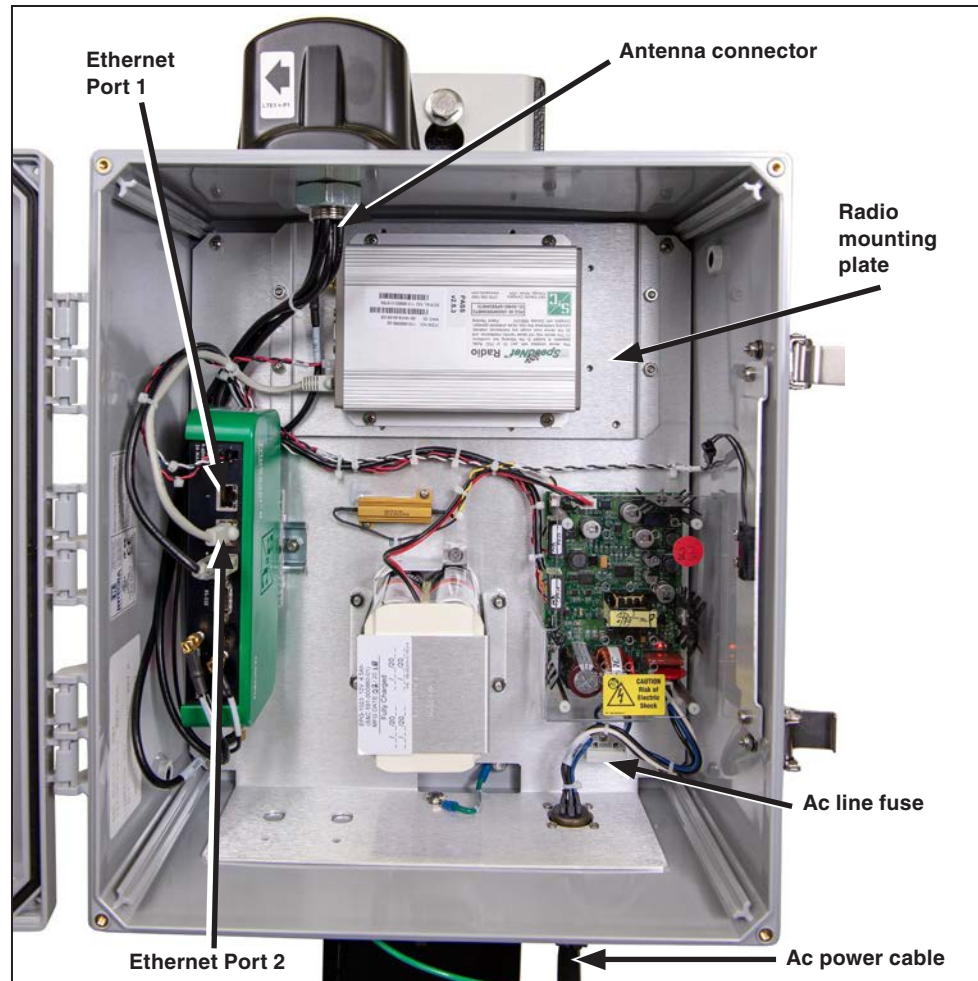

Figure 4. Installing a radio.
A radio providing field-area network capability for SCADA applications, if specified, is furnished factory-installed in the communications gateway. Alternately, the customer may install a user-furnished radio. See Figure 4.
- STEP 1.** Disconnect the ac power cable connected to the bottom of the gateway and then disconnect the ac-line fuse located at the lower right corner of the gateway box. See Figure 4 on page 12.
- STEP 2.** Remove the existing field-area network radio. See Figure 4 on page 12.
**STEP 1.** Disconnect the ac power cable connected to the bottom of the gateway and then disconnect the ac-line fuse located at the lower right corner of the gateway box. See Figure 4 on page 12.
**STEP 1.** Disconnect the ac power cable connected to the bottom of the gateway (See Figure 2 on page 9) and then disconnect the ac line fuse located at the lower right corner of the gateway box. See Figure 4 on page 12.
The communications gateway is accessed via a Web browser interface. Connect a PC with a CAT5 Ethernet cable to the communications gateway's Ethernet Port 1. See Figure 4 on page 12. The default configuration of the communications gateway's IP gateway is 192.168.1.1 with DHCP set as "On." To join the communications gateway network, set the PC's network address to "Obtain an IP Address Automatically" and "Obtain DNS Server Address Automatically" under the PC's LAN address settings to enable a network connection to the communications gateway. Alternately, a static IP address within the 192.168.1.x network may be used. See Figure 9.